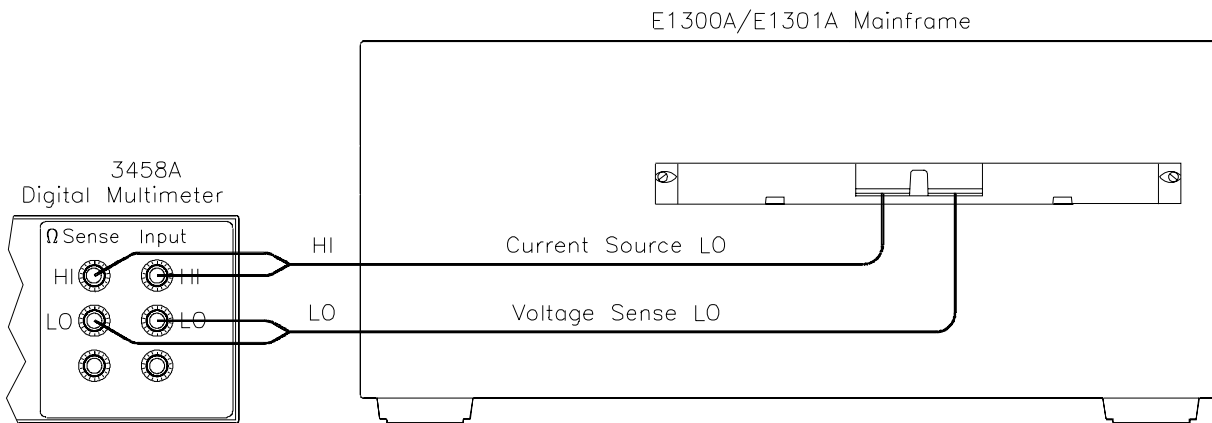

Figure 2-7. Ch 93 LO Measurement Connections
- Connect DMM leads as shown in Figure 2-7